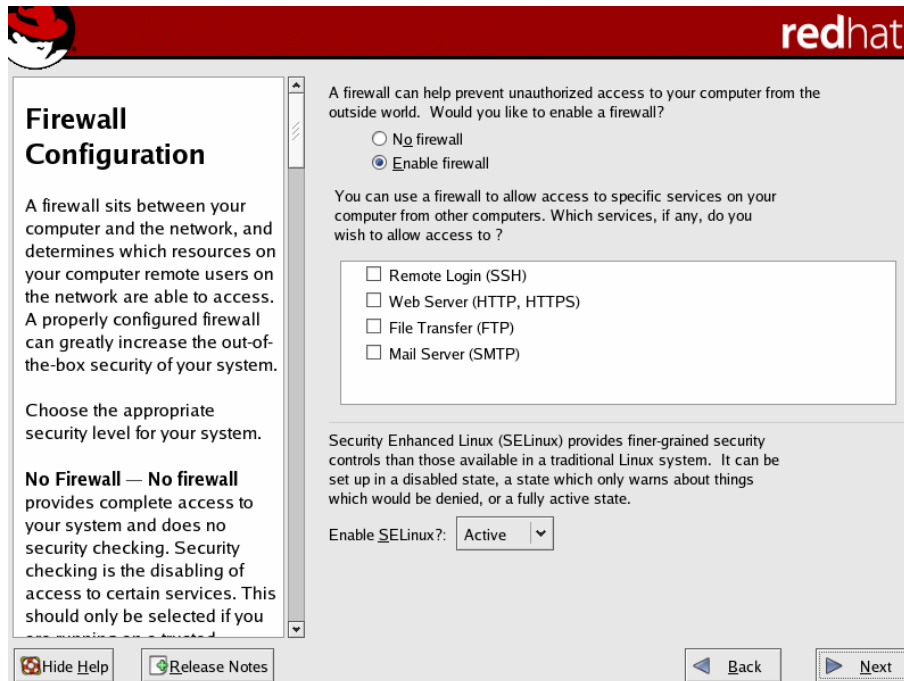

Figure 5-12
14. Refer to Figure 5-12. A properly configured firewall can greatly increase the security level of your network. Select "Enable firewall" and the specific services you will allow access to from other computers.